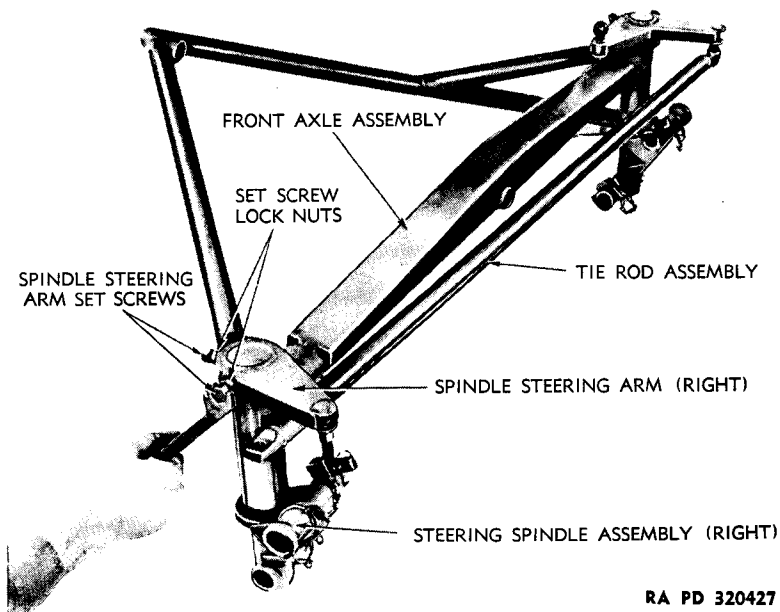

Figure 17 — Front Axle Assembly
a. **Description** (fig. 17). The front axle assembly consists of the front axle, steering spindle arms, and the steering spindles with the
a. Remove Spindle Steering Arm (fig. 17). Remove cotter pin and nut holding tie rod. Loosen two steering spindle arm set screw lock nuts by turning counterclockwise. Remove two set screws by turning in same manner. Lift off steering arm. Left steering arm will be removed in same manner.